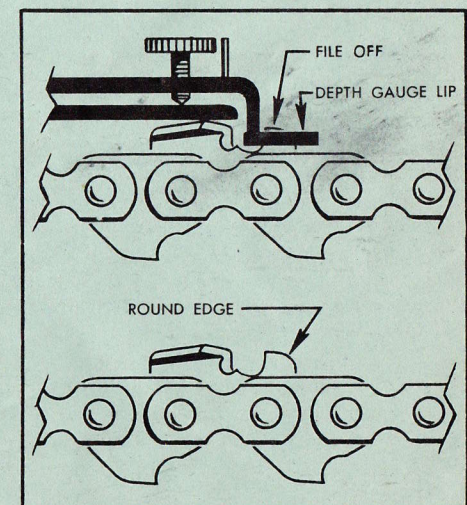

Figure No. 10
- a. Turn the dial on the depth gauge (CST-34) to the right until it is closed, then turn it to the left to the desired measurement (.020). Place gauge on top of cutting tooth with the dial up and the flat lip pointed in the same direction as the cutting edge of the tooth. (See Figure No. 10)